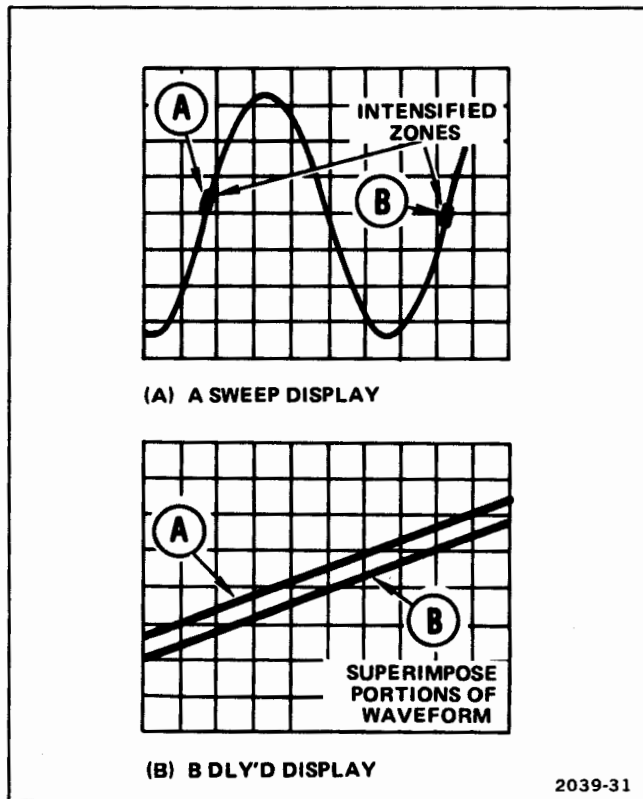

Figure 30. Time duration and frequency.
1. Using the DELAY TIME POSITION control, move the reference point to a convenient horizontal graticule line (see Figure 30, Point A).
2. Using the  $\Delta$  TIME control, move the time-measurement point along the same horizontal graticule line to the beginning of the next waveform cycle (see Figure 30, Point B).
3. Slightly readjust the  $\Delta$  TIME control to superimpose the waveforms on the B Sweep display (see Figure 30).